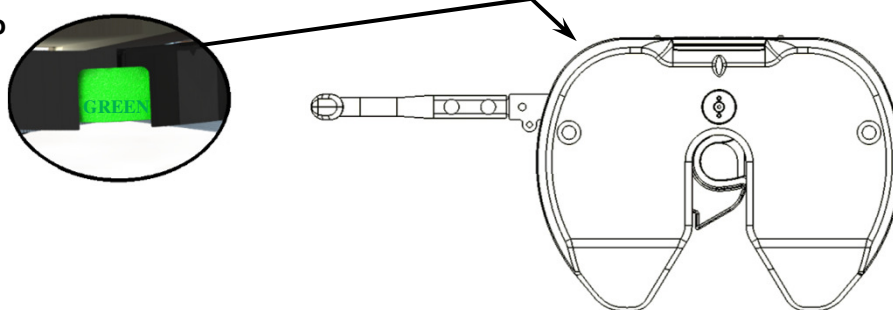

FIG. 11
- 2) Back truck slowly into trailer so the trailer king pin and 5th wheel funnel align. Hitch will latch automatically when truck is backed completely into trailer king pin. When this occurs, the indicator will be 100% **green** (pg. 4, fig. 11).\*